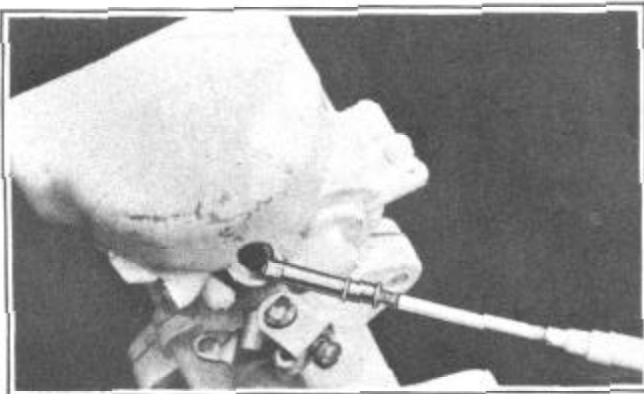

FIGURE 16
9. Remove nozzle passage plug, nozzle retainer plug and nozzle, Figure 16.